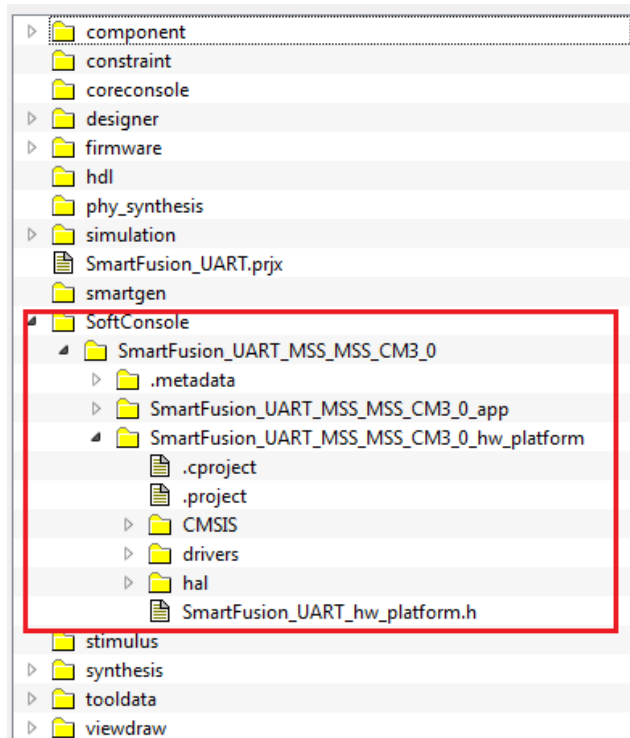

Figure 13 · Files Window After Generating the Project
7. Ensure that the SoftConsole folder is created with the folders and files, as shown in Figure 13 .